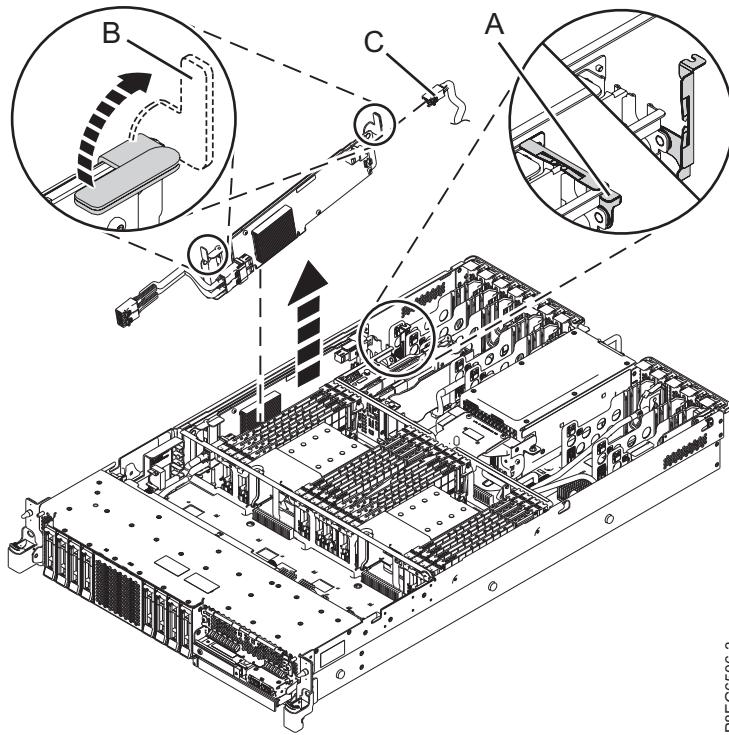

Figure 3. Removing the SAS RAID adapter
8. Lift the cable retention bracket (A) of the SAS RAID internal adapter to which the front SAS cable is attached in the direction that is shown in Figure 3.
9. Lift the blue handles (B) in the direction that is shown in Figure 3.
10. Using the blue handles on the SAS RAID adapter, lift the adapter up far enough to disconnect the rear SAS cable (C) from the SAS RAID adapter, if a rear SAS cable is attached.